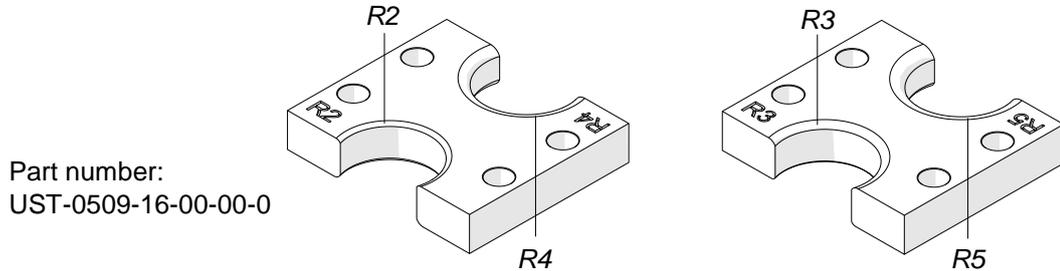

**Fig. 8.** Replacing the brushes
Check the condition of the carbon brushes every 100 operation hours. To do this, unplug the machine from the power source, and unscrew the cover 1 (Fig. 8). Next, loosen the screw 2, pry off the spring holding the brush (3), and remove the brush (4). If the length of the brush is less than 5 mm (0.2"), replace both brushes with new ones.